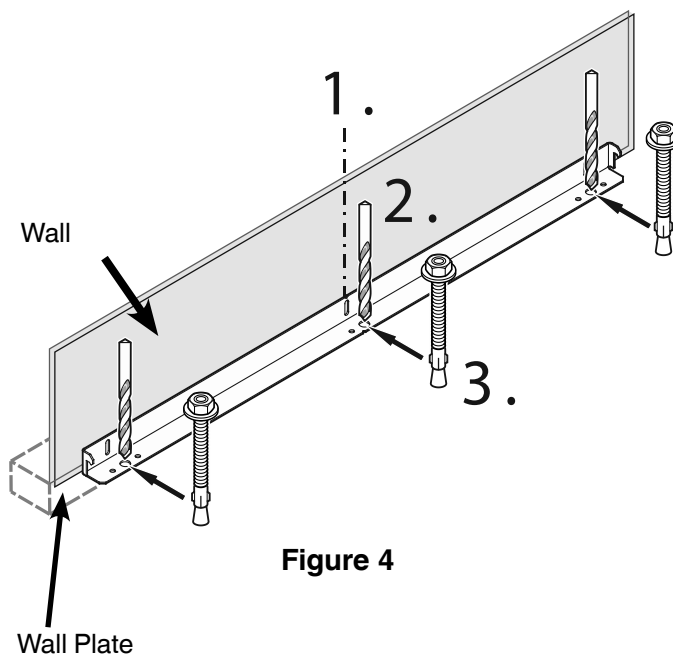

Figure 4
Mounting the anti-tipping device on concrete floors - Figure 4 - 5
2. Drill a 3/8" diameter hole in any position as shown in **Figure 4** using a carbide drill bit.